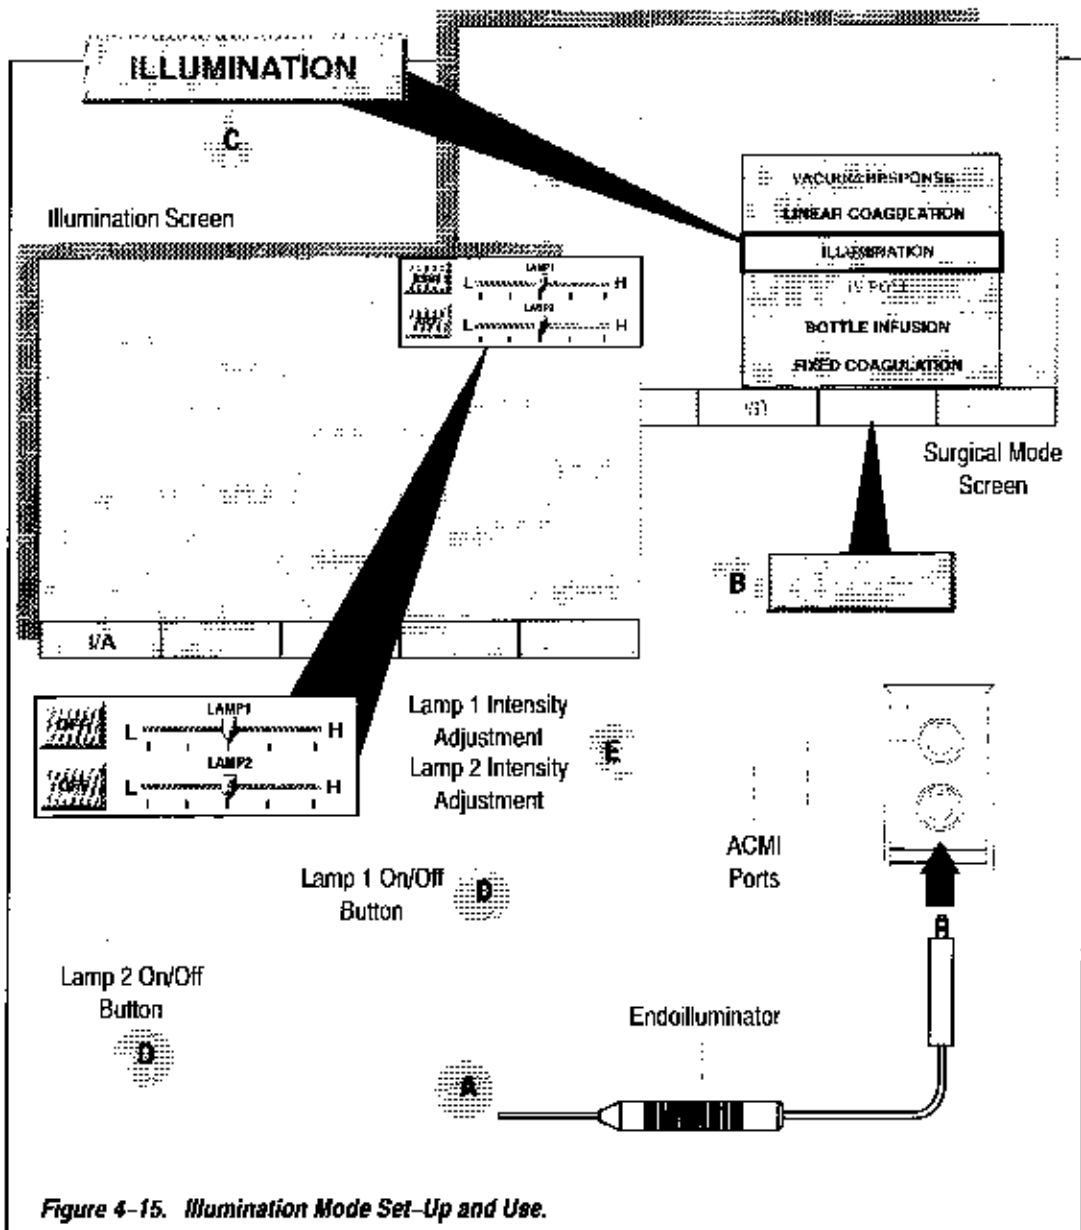

Figure 4-15. Illumination Mode Set-Up and Use.
- A. Connect the fiber optic endoilluminator to the desired ACMI port on the illumination module (see figure 4-15).